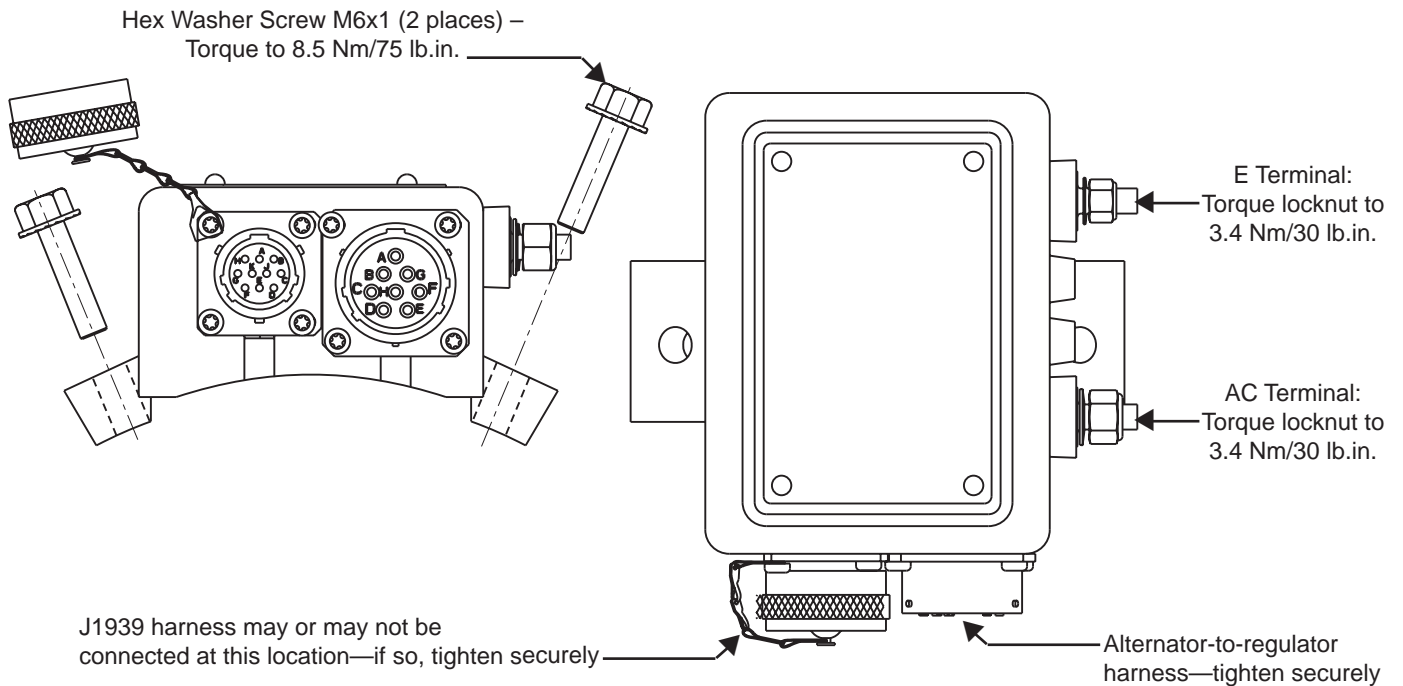

Figure 1 - Regulator/Harness Attachment
2. Set new regulator on alternator. Install and tighten new mounting hardware (in bag supplied with alternator) as shown in Figure 1.
3. Plug harness(es) into alternator as shown in Figure 1.
4. Attach and tighten cables to terminals as shown in Figure 1.